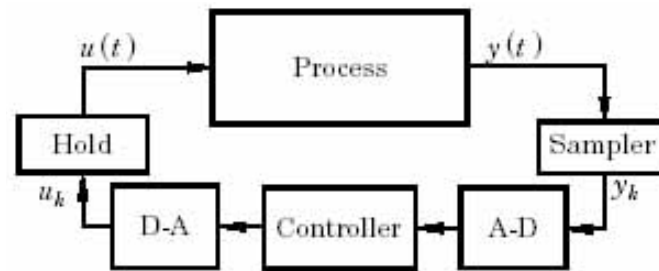

Figure 3: Model of digital control system.
The controller you just designed will be implemented digitally. This system can be described as in the Figure 3. In this part of the homework, the A/D
21. Open the Simulink model with the discrete designed controller. Add your own quantization block (with the same quantization level) according to Figure 3 and ensure that you quantize $y(t)$ and $u(t)$ and not Δy and Δu . This corresponds to an A/D and a D/A converter. Set the saturation for both blocks to 0 for the lower and 100 for the